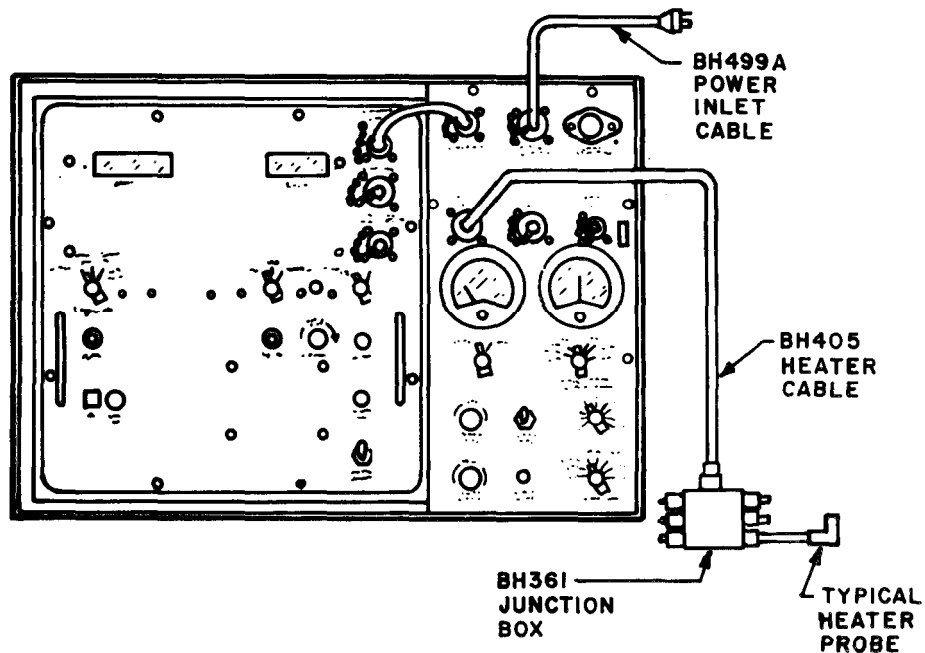

Figure 4-3. Test Setup of Heater Probe Control Circuit.
- (1) Make test setup of figure 4-3.